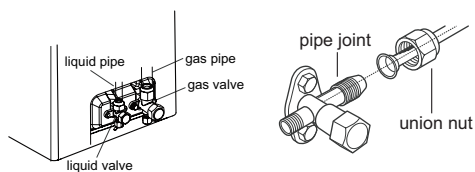

Fig.20
2. Remove the screw cap of valve and aim the pipe joint at the bellmouth of pipe.(As show in Fig.20)